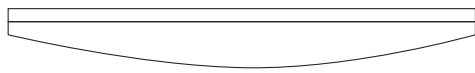
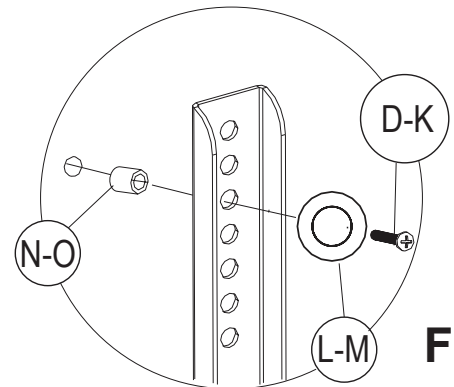

Fig. 1d
Fig. 1e
If your television has a curved back, and the mounting holes are recessed (Fig 1d) spacers are required. Install the proper size spacers (N-O) between the TV rear and the bracket structure as shown in Fig 1e. Then use the selected bolts (D-K) washers (L-M) and the Allen wrench (P) to attach the bracket structure (with the spacers between the bracket and the TV) to the TV as shown in Fig 1f. Make sure the bracket structure is properly aligned on the rear of the TV and securely tighten the bolts. Do not over tighten.